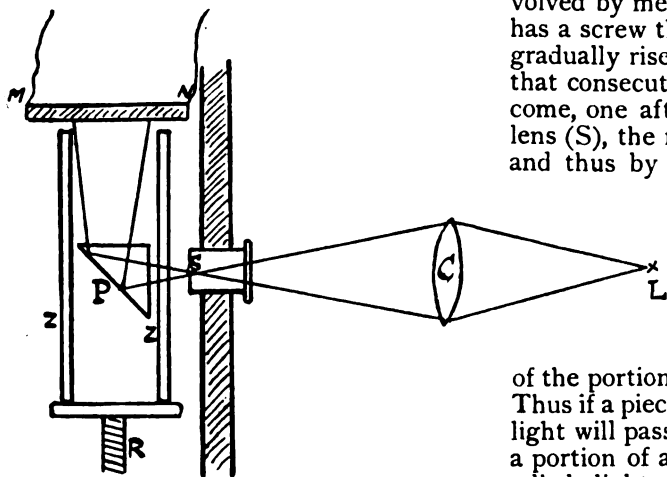

FIG. 1
The transmitter consists of a glass cylinder (ZZ, Fig. 1), round which the film-photograph to be sent to the receiving station is wound, and this is rotated by means of an electro-motor. It is enclosed inside a wooden box, through the front of which is an aperture containing a small lens (S), through which rays of light from a powerful Nernst lamp (L) are concentrated by means of the condensing lens (C). The cylinder is revolved by means of an axis (R), which has a screw thread, so that as it turns it gradually rises in height. The result is that consecutive tiny portions of the film come, one after another, in front of the lens (S), the film having a spiral motion, and thus by degrees the whole of the photograph passes behind the lens (S). The pencil of light, therefore, which meets the film and passes through it, is more or less diminished in so doing, according to the density